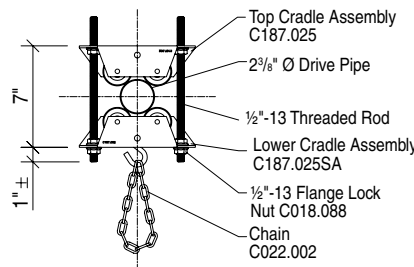
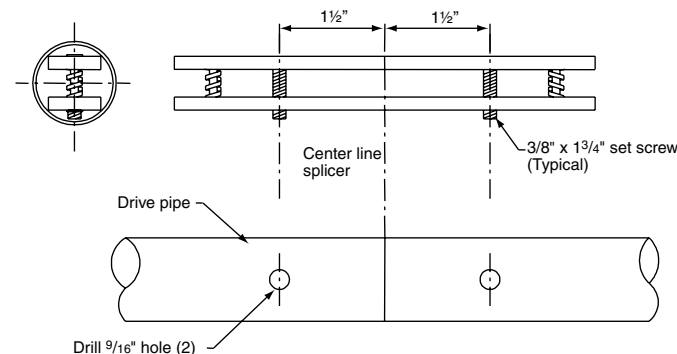

Figure 2
Figure 3
- ⑤ Install double drive pipe support assemblies to Z-Bracket with threaded rod at positions shown on shop drawing (typically adjacent to belts only) (see Fig. 2).
- ⑥ Using project specific drawings, identify the 2-3/8" drive tube sections that attach to the winch. Attach drive tubes to winch output shafts using supplied couplers, key stock and set screws. **ATTENTION Always insert the key stock into the slot on the motor shaft, first then slide the coupler onto the motor shaft. DO NOT INSERT KEY STOCK IN COUPLER FIRST. Tighten coupler set screw securely, making sure it hits the key stock.**
- ⑦ Raise the other drive pipe sections as indicated on project drawings.
- ⑧ Attach pipes together with drive pipe splicers to obtain one long continuous run of drive (see Fig. 3).
- ⑨ Operate the winch to determine that the drive pipe is rolling level. Make adjustments accordingly.
- ⑩ Position lift cables onto drive pipe in preparation of lifting curtain (lift cable not supplied).
- ① Lay the curtain out with the top of the curtain close to the lift cables hanging down from the drive pipe.
- ② Slide 1 5/8" top and bottom batten tubes into pocket one section at a time, assembling as you go. Use 1 3/8" OD x 14" tube to connect section of batten tube. Splice should be installed so equal portions are inside tube that is being connected (see Fig. 3). Rotate batten to align the pre-drilled and tapped holes in batten. Secure with 5/16" x 1/4" set screws.